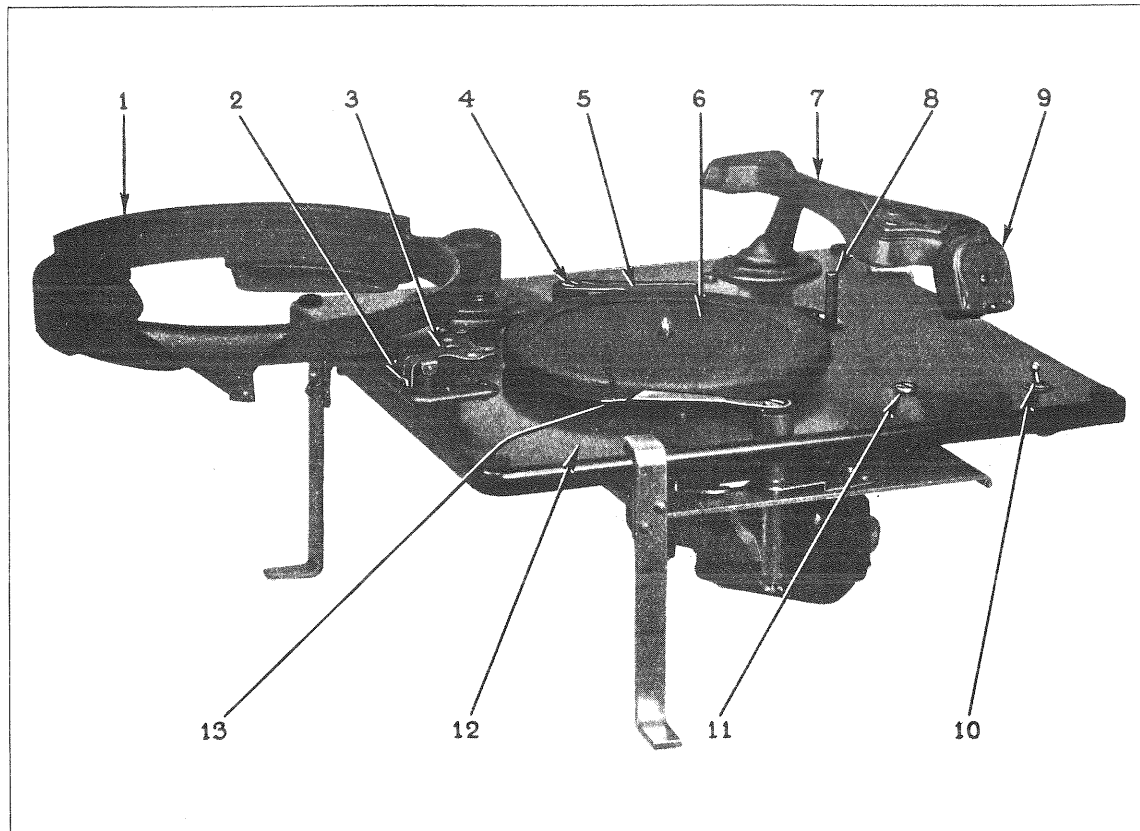
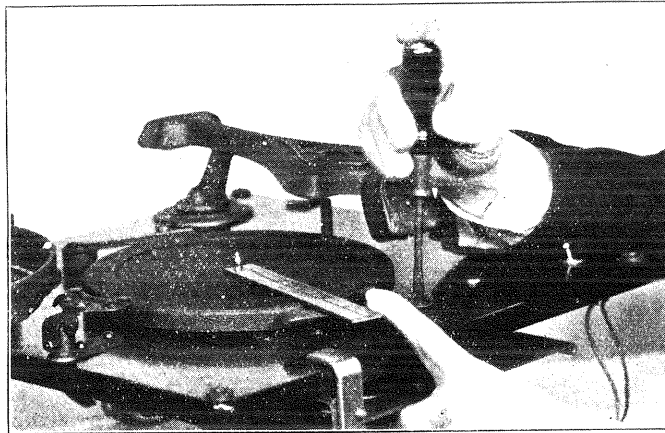

Figure 1—Top View of Automatic Mechanism
Figure 12—Adjusting Horizontal Position of Elevator Pads
- (6) **Records Discharge Improperly from Turntable**—Failure of the record on the turntable to be removed properly and placed in the magazine can be caused by:
- (a) *Improper Horizontal Adjustment of Elevator Pads*—The elevator pads 13, Figure 1, should be so adjusted that the inside of the pad flange is $5\frac{1}{16}$ " from the nearest side of the turntable spindle. Loosen the screw on top of the elevator shaft, move the pad to its correct position as shown in Figure 12, holding both the pad and the elevator shaft in position,